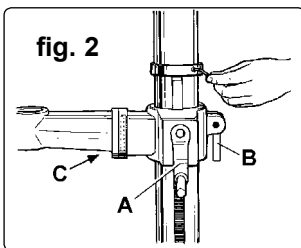

fig. 2
- 5.1.3. Install the rack collar and tighten firmly (fig.2).
- 5.1.4. Install the table adjusting handle (fig.2.A) and pivoted clamp bolt (the longer of the two - fig.2.B).
- 6.2.1. To adjust table up or down, loosen the clamp bolt (fig.2.B) then turn the bracket handle (fig.2.A).
- 6.2.2. To adjust table tilt, loosen the work table bolt (fig.2.C), adjust to the desired angle using the angle scale, then retighten bolt.
- 6.2.3. To turn the table around the column, loosen the rack collar slightly, then loosen the clamp bolt (fig.2.B). Turn the table to the desired position then secure the bolt and the rack collar.